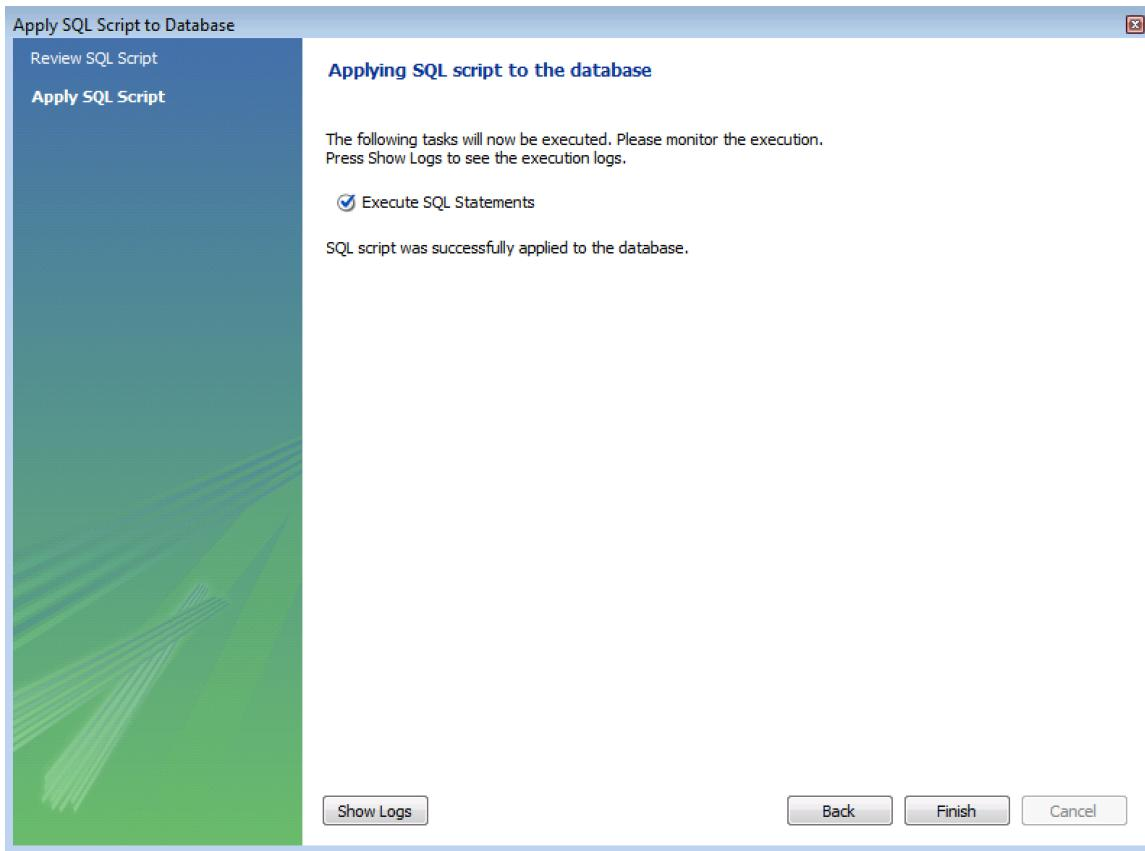

Figure 7: Execute SQL Script to create Supplier table
5. A window will then appear in order to execute the SQL (see Figure 7). Click “Finish”.